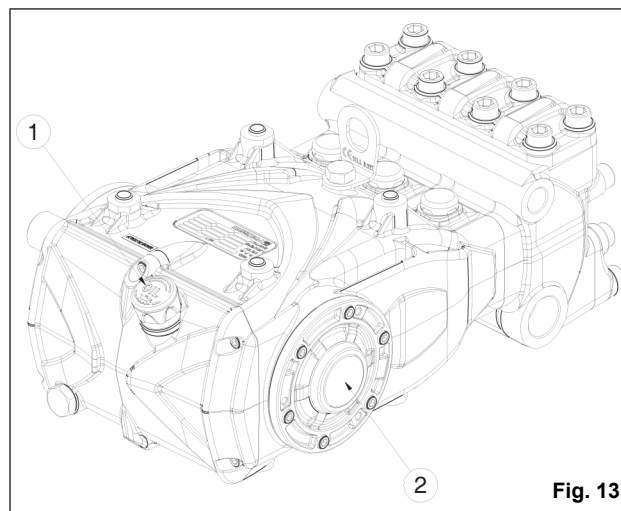

Fig. 13
5. The pump's oil level must be verified using the correct dipsticks (1, fig. 13) and with the oil level indicator (2, fig. 13).